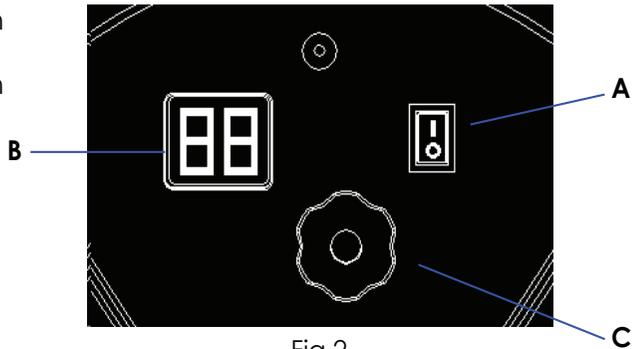

Fig 2.
- Turn the "ON/OFF" switch to "ON" (I) (Fig 2. A), it will turn on after a few second
- Check position of the thermostat (Fig 2. C)